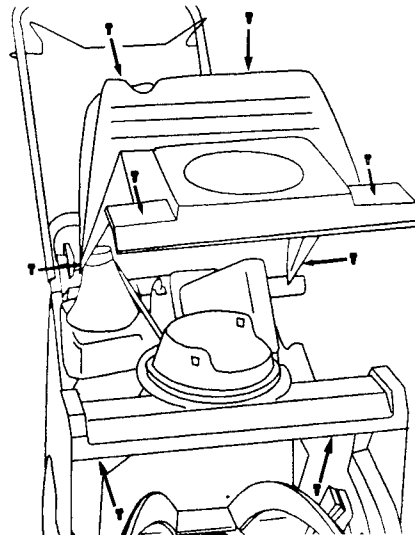

FIGURE 7
- B. Remove the three screws holding the discharge chute to the rotating ring. Remove the chute. See figure 7.